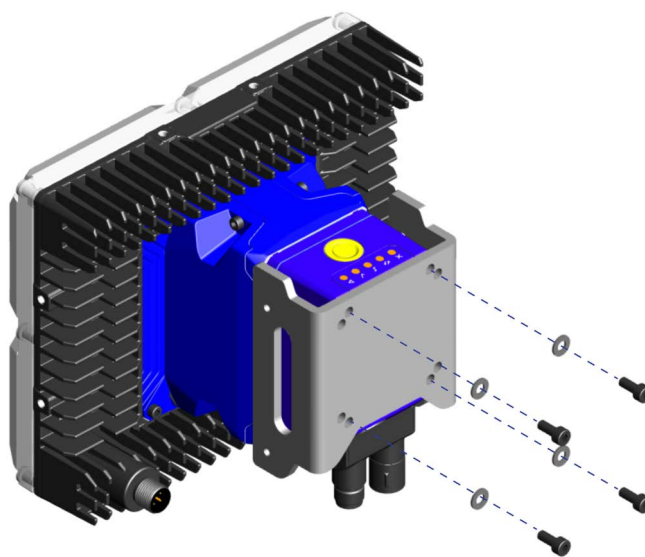

Figure 51 - Mounting the Fast Replacing Plate (1)
1. Fix the Fast Replacing Plate to the reader body with four screws and washers on the back side, as shown in Figure 51.